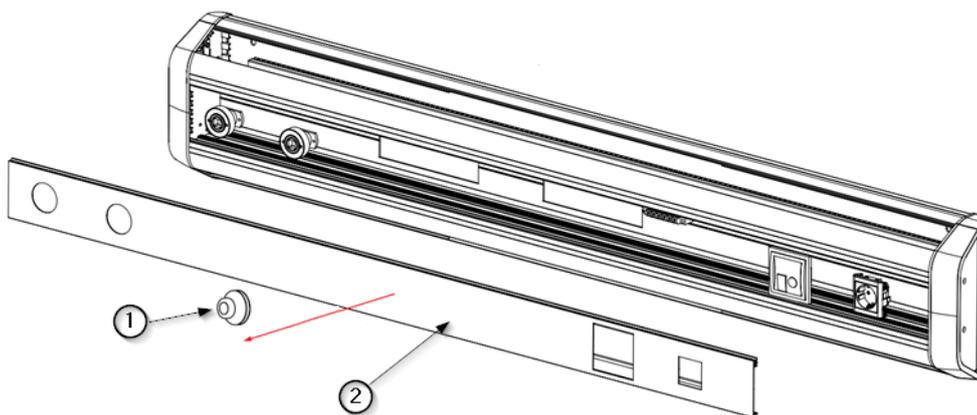

Fig.5 Removal of the central cover of the gas rail
- Remove the front cover (2) using the suction cup (1) as shown in figure 5 to reveal the pre-installed gas inlets on the device.
- Fasten the device at the two upper anchor points ① as shown in figure 5 without tightening definitively, but only in order to secure the device to the mounting surface with the appropriate screws.